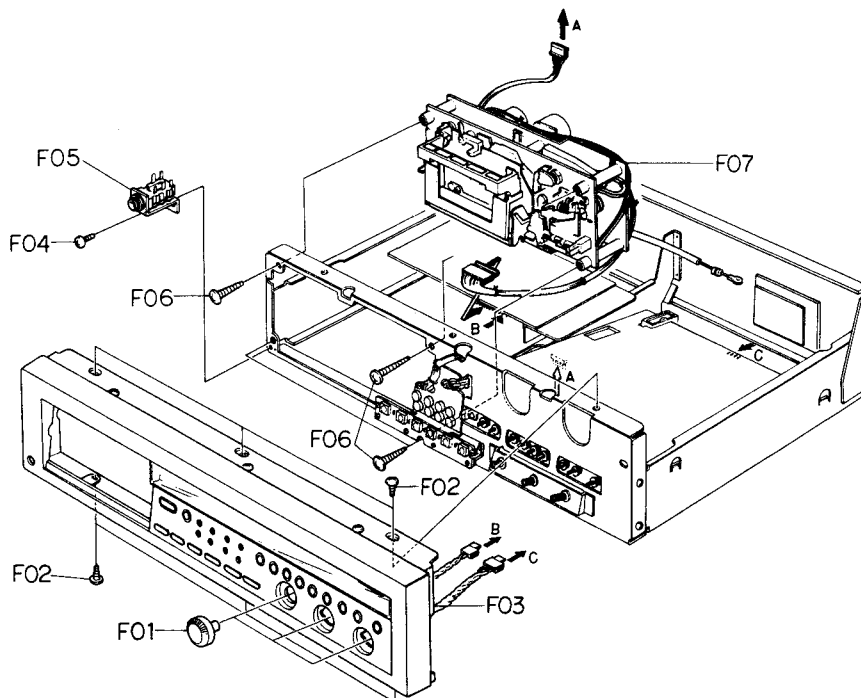

Fig. 3.2
Refer to Fig. 3.2.
- (1) Refer to Fig. 3.2. Remove Front Panel Ass'y referring to item 3.4.
- (2) Remove the Flat Cable and wires connected by wrapping from the F04 (Main P.C.B. Ass'y).
- (3) Remove F01, F02, F03 and the Record Switch Linkage from the Wire Holder assembled with Record Switch, then disassemble F04 (Main P.C.B. Ass'y).
- (2) Remove the connector and the wires connected by wrapping from the F06 (Logic P.C.B. Ass'y).
- (3) Remove F05, then disassemble F06 (Logic P.C.B. Ass'y).
- (2) Remove F09, then disassemble F10 (Volume P.C.B. Ass'y).
- (2) Remove F11, then disassemble F12 (Control Switch P.C.B. Ass'y).
- (2) Remove F13, then disassemble F14 (Record Cal. P.C.B. Ass'y).
- (2) Remove F01 and F02, then disassemble F03 (Meter Ass'y).
- (1) Refer to Fig. 3.2. Remove Mechanism Ass'y referring to item 3.5.
- (2) Push the Eject Button to open the Cassette Case Ass'y.
- (3) Remove F01 then disassemble the Piston of the Pneumatic Damper Ass'y.
- (4) Remove F02 and F03 (Cassette Case Holder L Ass'y), then disassemble F04 (Cassette Case Ass'y).
- (3) Remove F05, then disassemble F06 (Cover Plate).
- (2) Remove F07, then disassemble F08 (Tape Counter Ass'y).
- (2) Remove F01 and F02, then disassemble F03 (Flywheel Holder Ass'y).
- (3) Remove F04, then disassemble F05 (Capstan Motor Ass'y) and F06 (Capstan Belt).
- (4) Remove F07 (Supply Flywheel Ass'y), then disassemble F08 (Take-up Flywheel Ass'y).
- (5) After removing both Flywheel Assemblies, disassemble F09 (Thrust Washer 3.1 mm), F10 (Thrust Washer 2.6 mm), F11 (Flange Thrust Cap) and F12 (Flange Thrust Spring).
- (2) Remove Flywheel Holder Ass'y and both Flywheel Assemblies referring to above step 3.20.
- (3) Remove F01 and F02, then disassemble F03 (Sub Mechanism Chassis Ass'y).